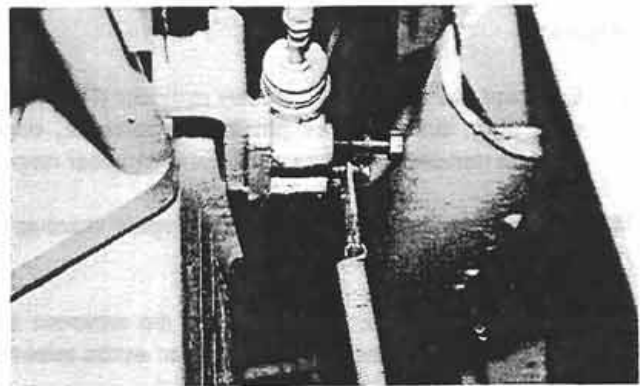

Figure 1:
2. Remove the two (2) through bolts fastening the slave cylinder to its mounting bracket (Fig. 1), and remove the unit by pulling the rubber boot from the pushrod/clevis assembly.